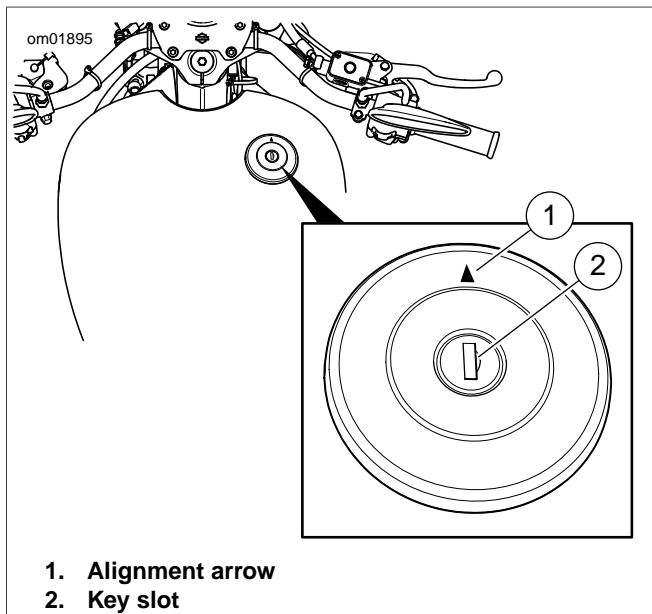

Figure 11. Fuel Filler Cap
1. See Figure 11. Insert the ignition key into the key slot (2).